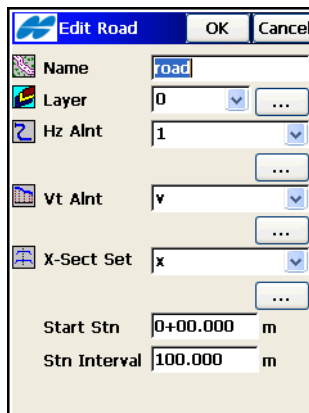

Figure 7-2. Edit Road
1. On the *Roads* screen tap the **Edit** button. The *Edit Road* screen displays (Figure 7-2).